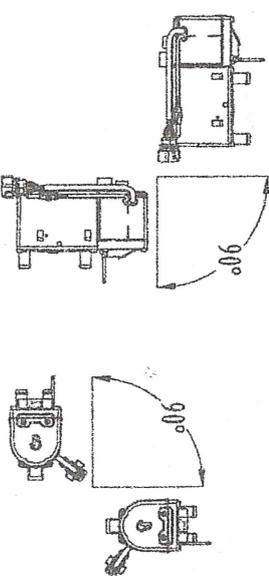

Fig. 4
4.2.3 Choice of position for installation of the heater shall facilitate release of air from the water pipe. It is allowed to incline to suit different arrangements for installation, but deviation from the "normal installation position" shall not exceed 90°, as shown in Fig. 4. Normal position is horizon and the exhaust pipe vent down.